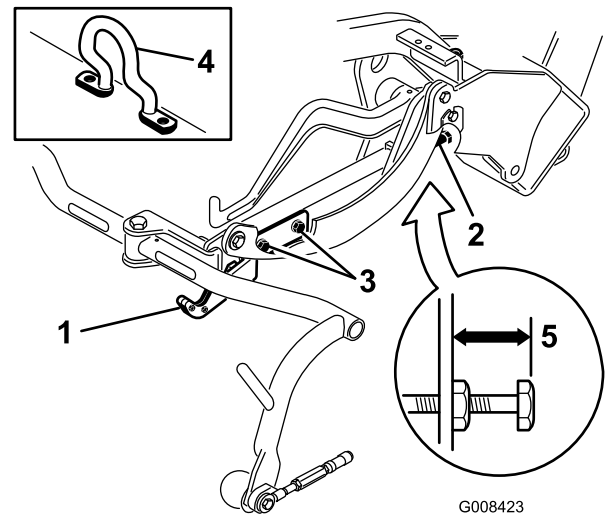
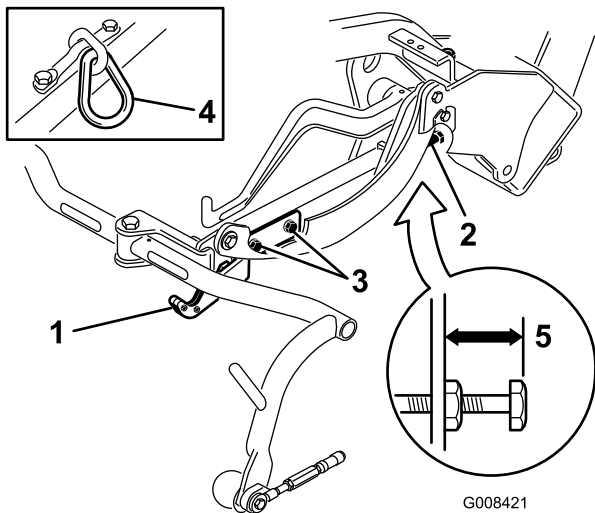
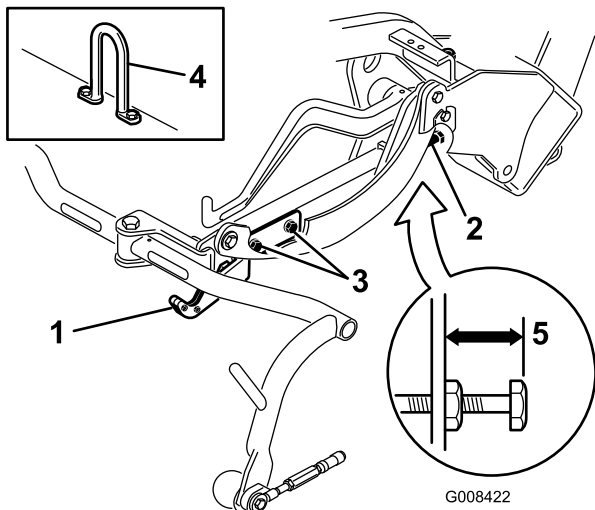

Figure 11
Figure 12
Figure 13
Check the transport height (Figure 12 and Figure 13) and adjust it if required.
2. On cutting units equipped with a offset lift hook (Figure 11 inset), verify that the distance from the top of the carrier frame adjusting screw to the back of the carrier frame is 25 mm (1 inch). If the distance is not 25 mm (1 inch), proceed to step 4.
3. On cutting units equipped with a chain link or a straight lift hook (Figure 12 and Figure 13 insets), verify that the distance from the top of the carrier frame adjusting screw to the back of the carrier frame is 22 mm (7/8 inch). If the distance is not 22 mm (7/8 inch), proceed to step 4. If the cutting unit is equipped with an offset lift link (Figure 11), proceed to the next step.
4. Loosen the transport plate mounting screws (Figure 12, Figure 13, and Figure 11).
7. If the carrier frames are not at the same height, loosen the jam nut on the carrier frame adjusting screw (Figure 11, Figure 12, and Figure 13). Rotate the screw outward to raise and inward to lower. Tighten the jam nut after you obtain the proper height.